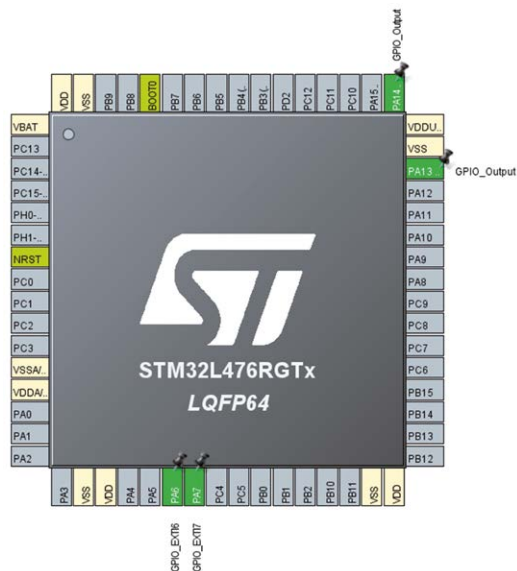

Figure 5.87: Configure the GPIO.
- Click on PA7 and select GPIO\_EXTI7 (see Figure 5.87).